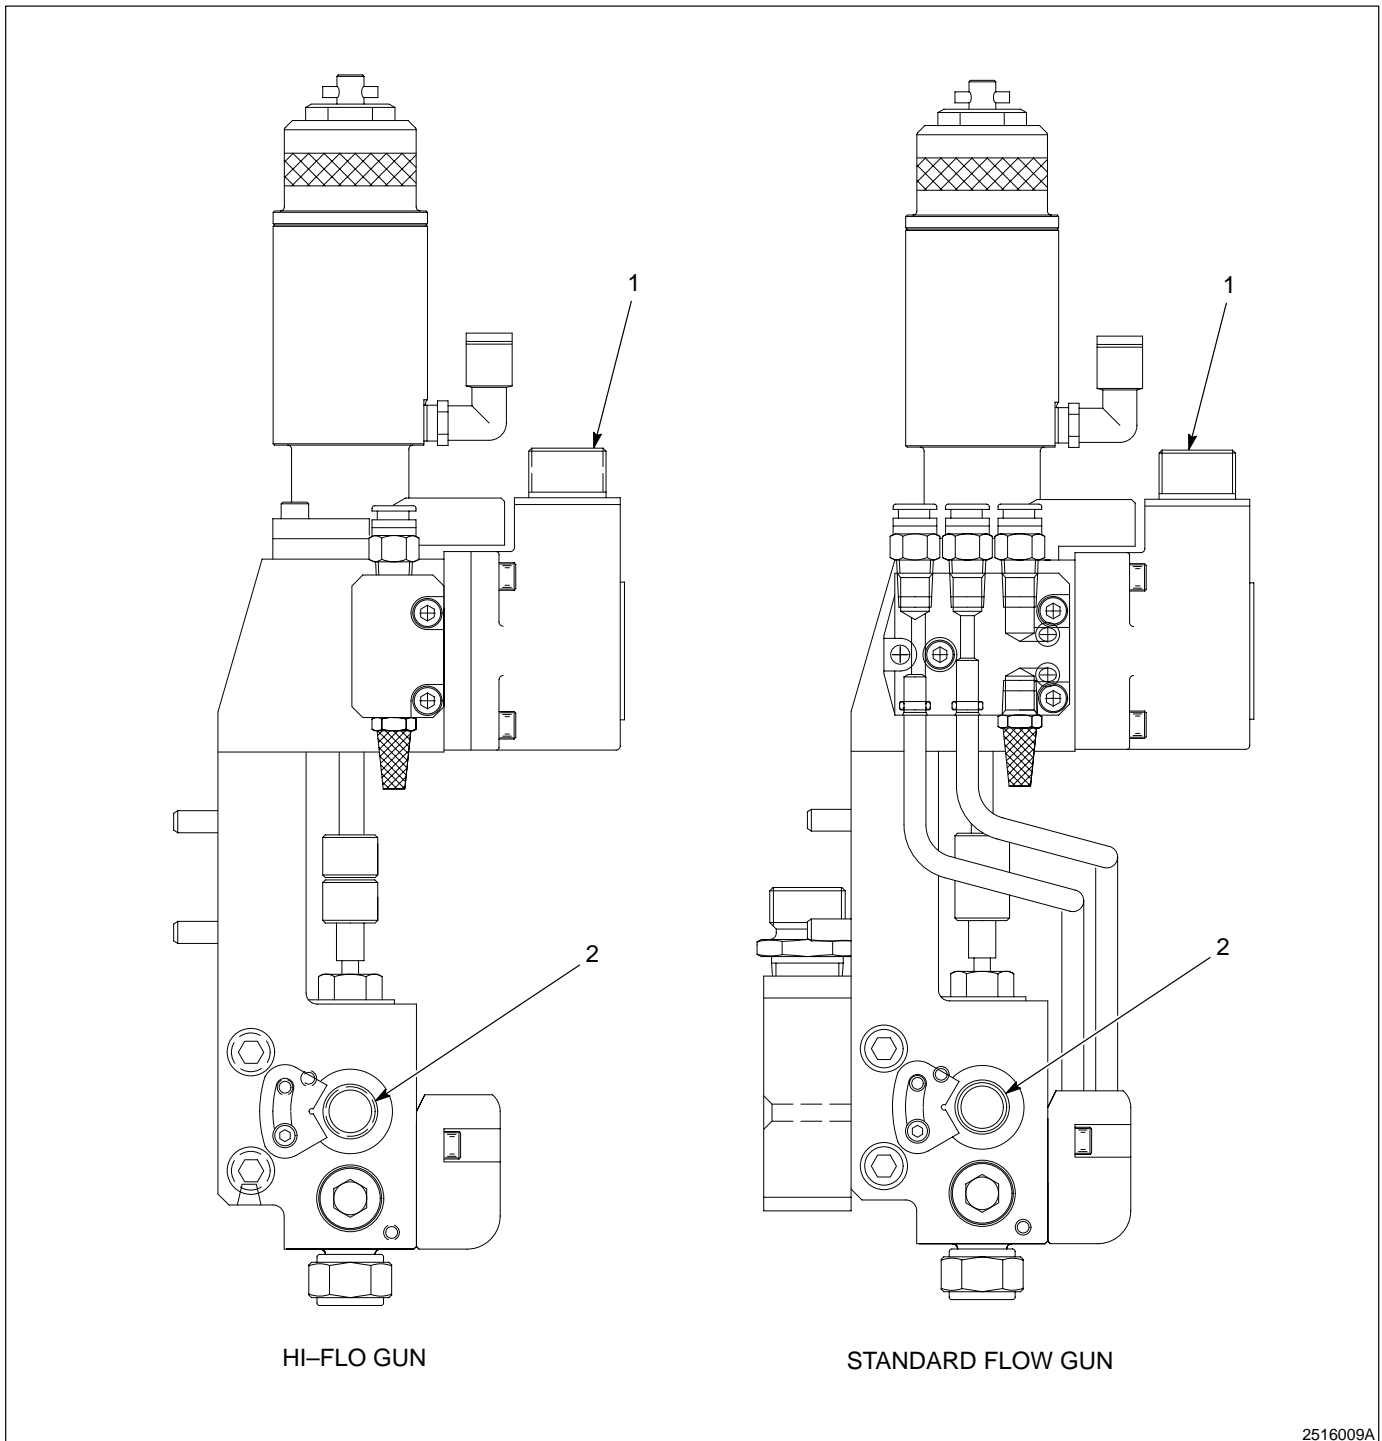

Fig. 3-4 Typical Pro-Flo Guns
2. Connect the free end of the gun cable to the J-Box (9).
3. Connect an extension gun cable (5) from the J-Box to the Pro-Flo gun receptacle (Figure 3-4 (1)) of your dispensing or compact gun.
1. See Figure 3-4. Connect the material supply hose from the drum unloader to the material inlet.
2. Connect a material supply hose from the material outlet to the material inlet (2) of your dispensing or compact gun.